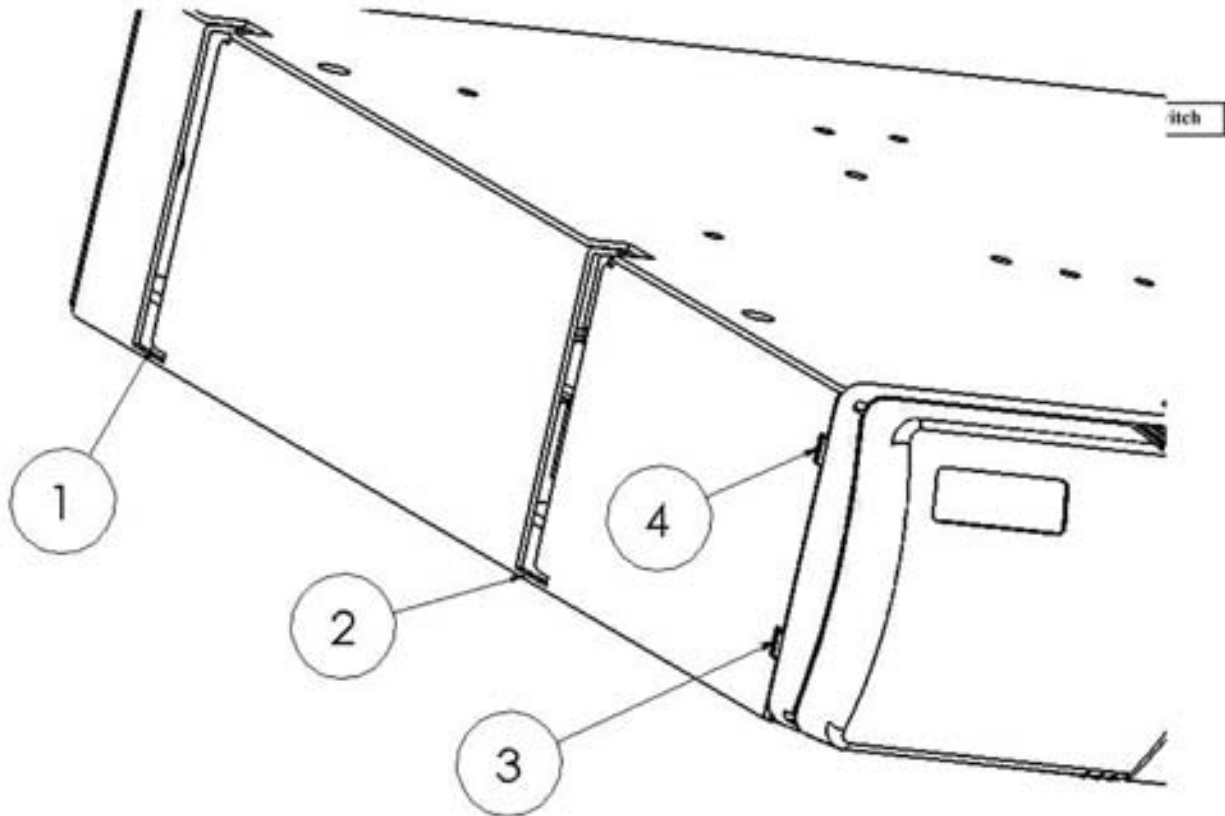

Figure 1.0, M200/M300 fastening system
1) If top lid is latched, first un-latch the bezel pins, see figure 1.0, plastic hooks 3 and 4. To un-snap the plastic hooks, start with the left side hooks first. Gently push front plastic front bezel to the right. The hooks will clear the top lid slots. Gently pull the front plastic bezel towards you, until hooks clear the slots. Repeat this step for the right side hooks, pushing the plastic front bezel to the left side.